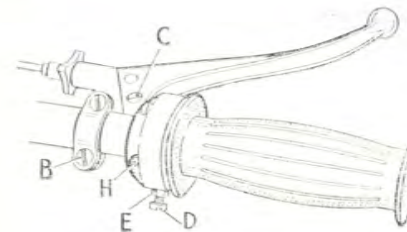

FIG. 3.
incorporated in the cable. The rotary stiffness of the twist grip can be varied by means of the adjuster screw (D) Fig. 3, and locknut (E). It is set for average requirements when leaving the factory, but can be re-adjusted to suit individual preference.
The lever is mounted on the right handlebar in front of the throttle control and its position can be adjusted after slackening the screws (B) Fig. 3. The looseness of the lever is adjusted by rotation of screw (C) after slackening its locknut. Grip the lever gently to operate the brake. The main adjuster for all models except the *Victor Special* is situated mid-way in the cable (Fig. 28). Finger adjustment for the cable is provided at the adaptor on the lever.